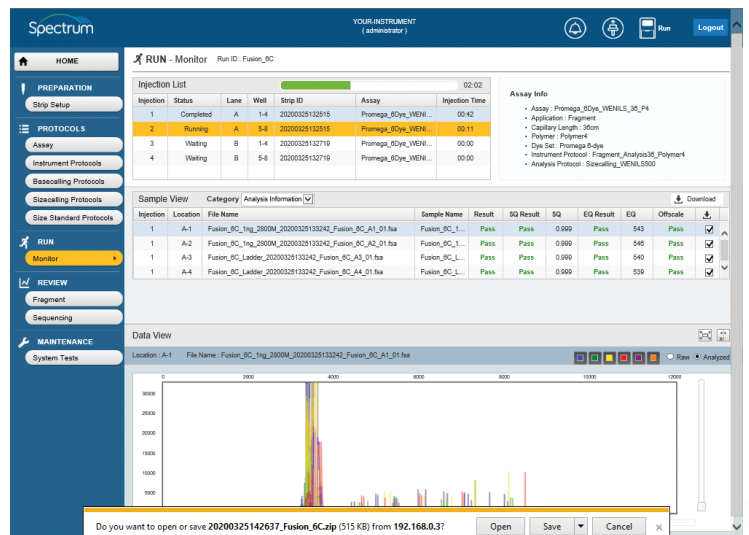

Figure 87. 'RUN-Monitor' screen with download window.
- After selecting **Download**, a window appears at the bottom of the 'RUN-Monitor' screen asking if you want to **Open**, **Save** or **Cancel** the .zip file containing the run information for the selected samples (Figure 87). The .zip file is named with the date (Year/Month/Day) and time of export, followed by the Run ID.